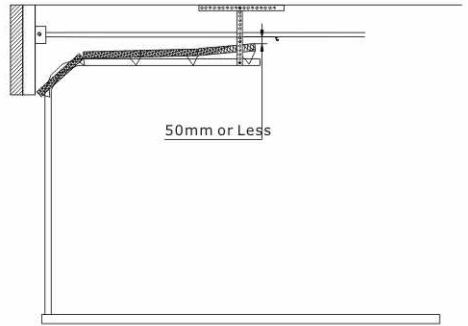

Fig.7
- Mounting the Drive Rail more than 50mm above the Highest Arcing Point of the garage door may cause the Drive Rail to flex excessively. Always ensure that the bottom edge of the Drive Rail is located within 50mm of the top edge of the top panel of the garage door. (Fig.7)**
- Raise the Drive Rail assembly off the floor and rest it on a support high enough that the Drive Rail runs parallel to the ground. (Fig.7) depicts typical sectional type garage door installation)
- Slide the Drive Rail Hanger along the drive rail (up to max 600mm from the Control Box) in order to align it with a structural member of the garage. Securely fasten the Drive Rail Hanger to the structural member of the garage using two lengths of appropriate hanging material. (Fig.7)
- a. With the garage door in the fully open position the underside of the Drive Rail should be no more than 50mm above the highest arcing point for its entire length. Mounting the Drive Rail more than 50mm above the Highest Arcing Point of the garage door may cause the Drive Rail to flex excessively. (Fig. 7)